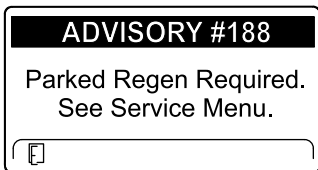

Figure 36
- Parked regeneration required ADVISORY #188 (Figure 36)